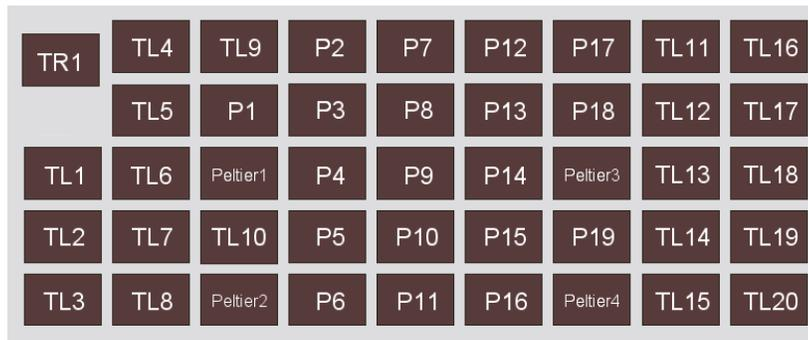

Figure 13 Deck positions on the Biomek™ i7 Automated Workstation.
- Figure 13—Deck positions on the Biomek™ i7.